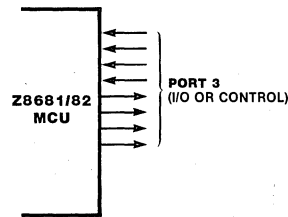

Figure 12. Port 3
**Port 3** lines can be configured as I/O or control lines (Figure 12). In either case, the direction of the eight lines is fixed as four input ( $P_{3_0} - P_{3_3}$ ) and four output ( $P_{3_4} - P_{3_7}$ ). For serial I/O, lines  $P_{3_0}$  and  $P_{3_7}$  are programmed as serial in and serial out, respectively.